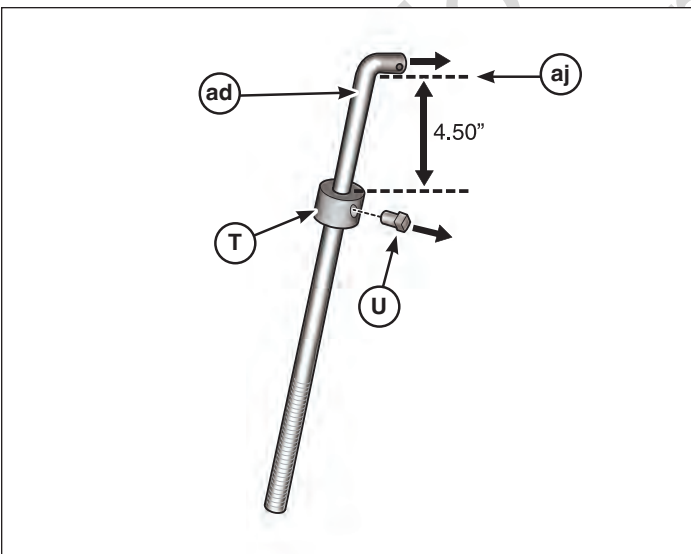

Figure 28
6. Slide set collar (**T**, Figure 28) onto lift rod (**ad**).